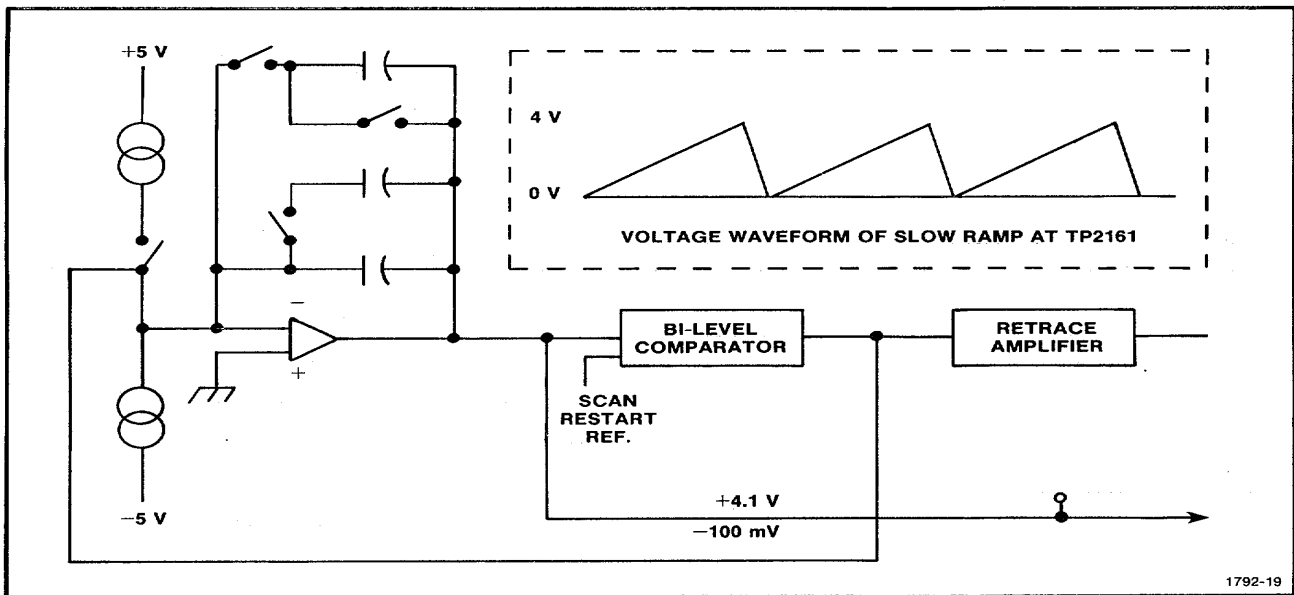

Figure 3-5. Functional Block Diagram of Slow Ramp Generator.
**Slow Ramp (Schematic 3).** The Slow Ramp Generator consists of an integrator, a bi-level comparator, a positive current source, a negative current source, a retrace switch, and a retrace signal amplifier. A functional block diagram of the Slow Ramp Generator is shown in Fig. 3-5.
**Integrator.** An inverting amplifier circuit with an FET input is used as an integrator. Integrator capacitor C2356 is connected between the collector of Q2345 and the inverting input (gate of Q2246A). A minus current applied to the inverting input through R2353 results in a linear rising voltage on the output (see the waveform shown in Fig. 3-5). This output voltage will continue to rise until it reaches the internal comparison level of 4.1 volts. The bi-level comparator output then switches to a higher output level to close FET switch Q2257. It also changes its comparison level to  $-0.1$  V. This allows a positive current to be applied to the input of the integrator. The positive current is several times larger than the negative current and causes the output voltage of the integrator to decrease linearly. After a short period of time, the integrator output voltage approaches this comparison voltage of  $-0.1$  V and causes the positive current into the integrator to be turned off. At this time the comparator level is switched back to the 4.1 V level and the cycle starts over.